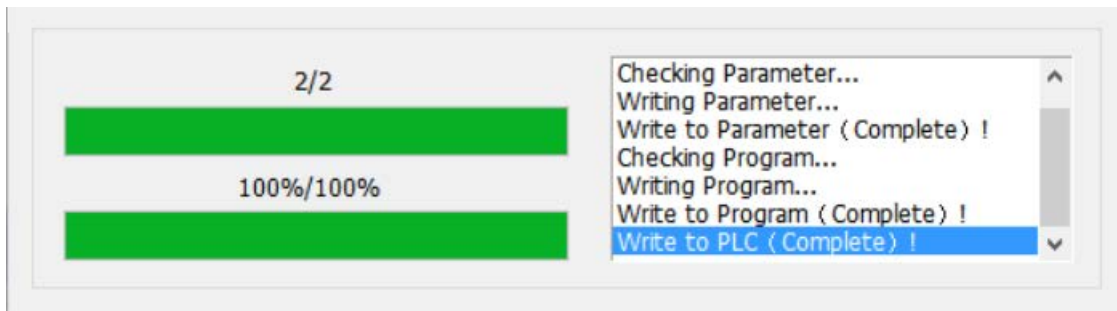

Figure 5-14
- 1) [Param+Prog (P)]: Upload parameters and project from PLC;
- 2) [Select All (A)]: Upload parameters, PLC project, comments, and device memory from PLC;
- 3) [Cancel all select (N)]: Deselect all;
- 4) [Execute (E)]: Executeupload operation;
- 7) [Show]: Shows upload progress and other information, as Figure 5-14 shows: